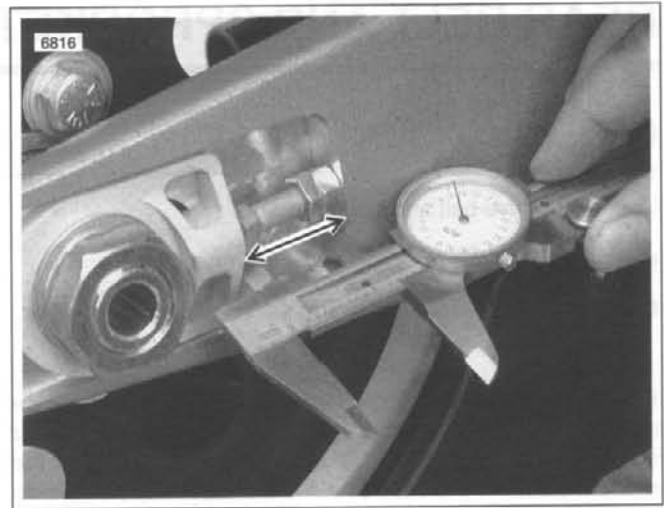
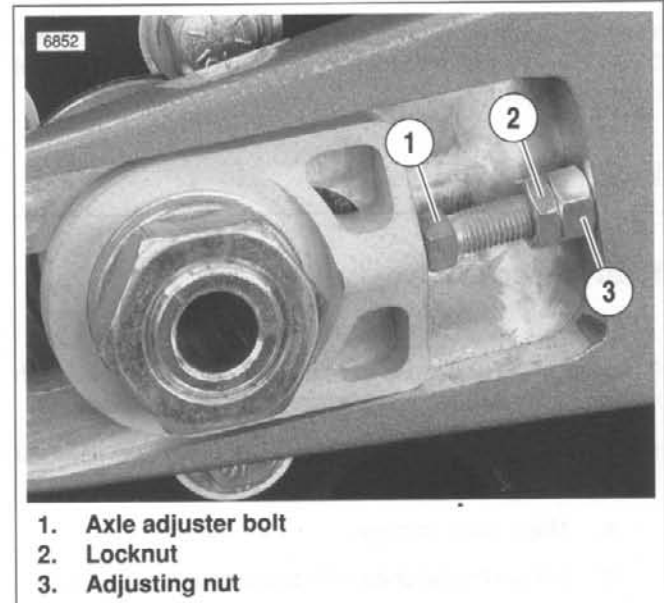

Figure 1-41. Checking Rear Wheel Alignment, Right Side Shown
Figure 1-42. Axle Adjuster Bolt, Right Side Shown
1. See Figure 1-41. Measure each side from the flat of the axle carrier to the flat of the swingarm.
See Figure 1-42. Use an automotive-style ignition wrench to hold axle adjuster bolt (1) in place during Step 2.
3. To adjust belt deflection/rear wheel alignment, loosen locknut (2), hold axle adjuster bolt (1) and turn adjusting nut (3).
- a. If belt is too loose, tighten adjusting nut (3) to decrease deflection and therefore increase drive belt tension.
- b. If belt is too tight, loosen adjusting nut (3) to increase belt deflection and therefore decrease drive belt tension.
- c. See Figure 1-41. Repeat this step until the distance between the flat on the axle carrier and the flat of the swingarm is the same on both sides of the rear wheel and belt deflection is correct.
4. See Figure 1-42. Tighten locknut (2) flush against adjusting nut (3).